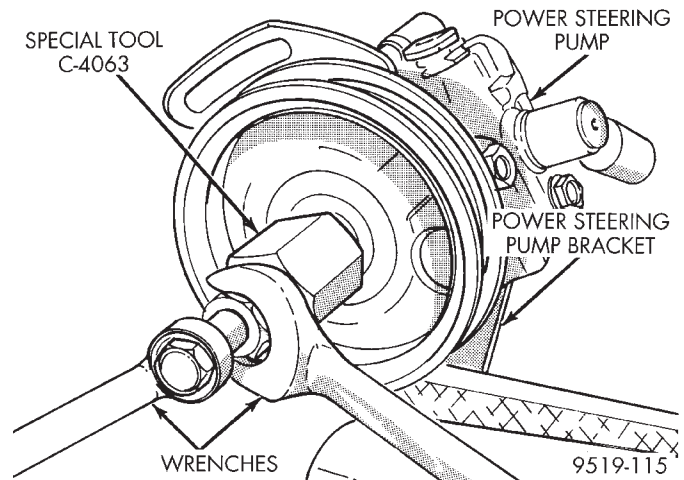

Fig. 60 Installing Pulley On Shaft Of Power Steering Pump
(4) Mount Installer, Special Tool C-4063 in internal threads of the power steering pump shaft and against Special Tool 6936 on power steering pump pulley (Fig. 60).
(5) Ensuring that special tool and pulley remain aligned with pump shaft, force pulley onto power steering pump shaft until Special Tool 6936 is against the end of the shaft. **When Special Tool 6936 is against the shaft of the power steering pump, Special Tool C-4063 will no longer be able to be turned.**